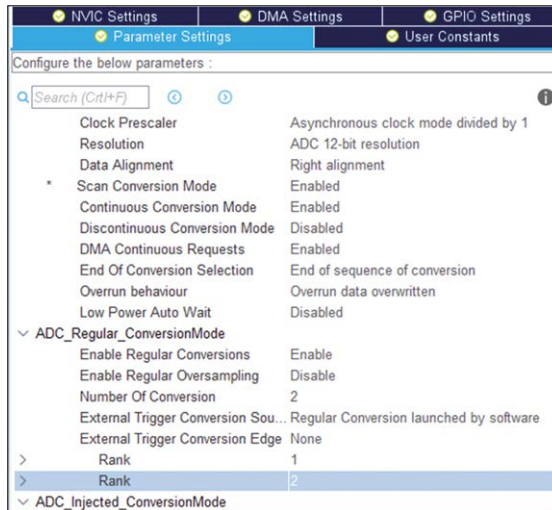

Figure 8.20: Parameter settings.
- Set **Rank 1 Channel** to **Channel 3**. Also, set **Rank 2 Channel** to **Channel 4** (Figure 8.20).